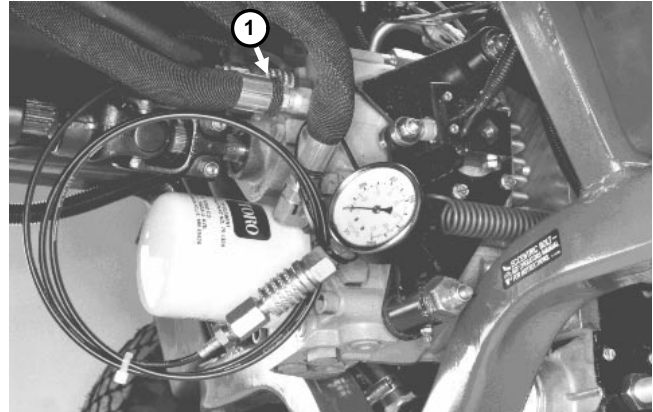

Figure 17
3. Connect a 1000 PSI gauge onto charge pressure test port (Fig. 17).